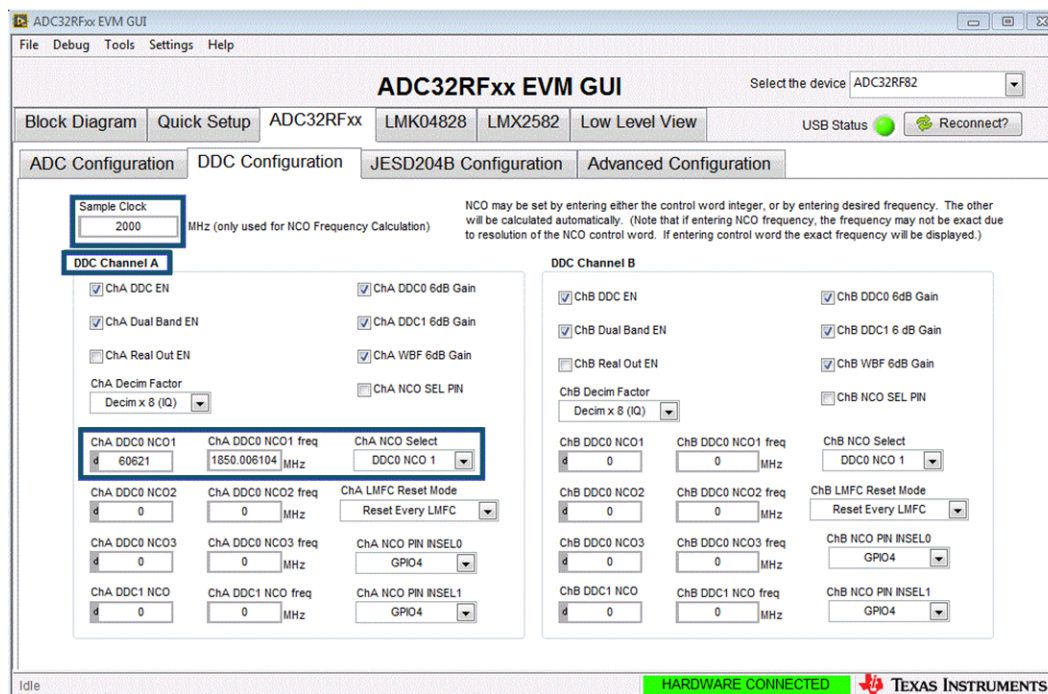

Figure 11. ADC32RFxx-EVM GUI DDC Configuration Tab
12. Enter "1850" in the box for the *Channel A DDC0 NCO1* frequency. The control value for NCO1 should become 60621 as shown in Figure 11